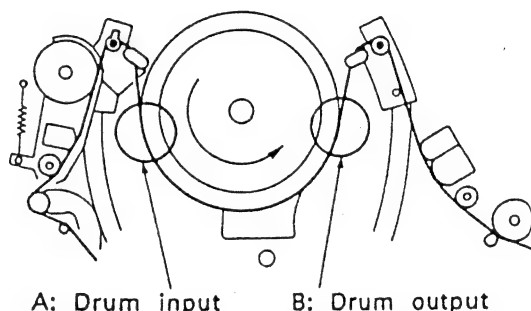
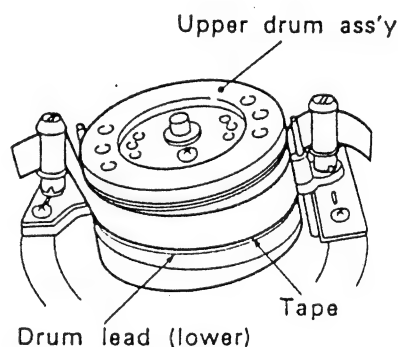

Fig.8 Tape transport check
Fig.9 Drum lead check - 1
- During PLAY mode, observe tape at the input and output portions (A and B in Fig.8) of the head drum lead. Confirm that the tape slips neither upward nor downward with respect to the lead as shown in Fig.9.